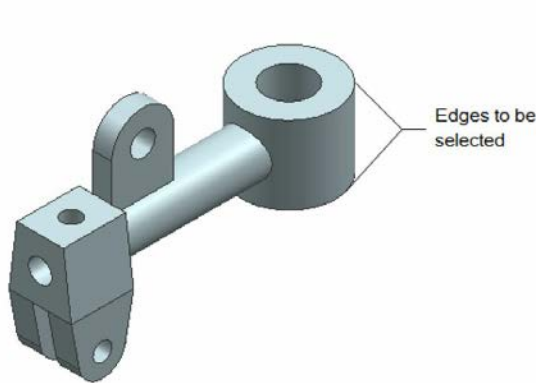

Figure 13-122 Edges to be selected
- Increase the length of the cylinder using the **Linear Dimension** tool, refer to Figure 13-122.
2. Select the outer edge of the upper horizontal face of the cylinder, refer to Figure 13-122; the **Measurement Object** button is chosen automatically in the **Measurement** rollout. Now, select the outer edge of the lower horizontal face of the cylinder, refer to Figure 13-122.